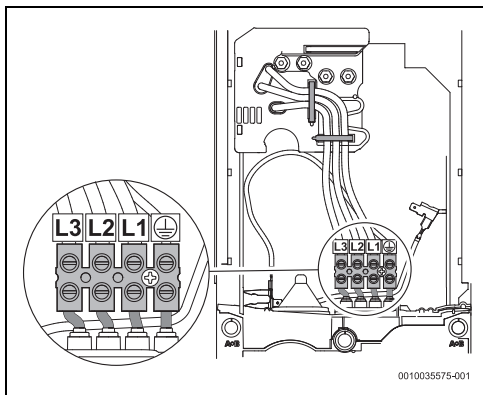

Fig. 37 Lower connection with individual cables
- Lower Connection with individual cables (Fig. 37)